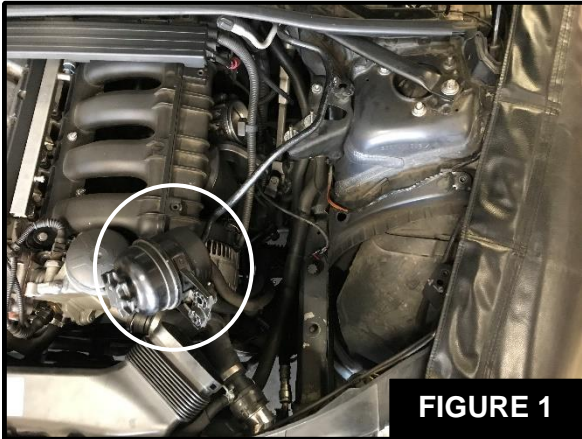

FIGURE 1
Step 6: For vehicles with the steering pump located above the factory intake tube, remove the two (2) factory nuts and keep for later use (5).
Step 7: Detach the factory air line from the reservoir's bracket (6).
Step 8: Carefully move the steering pump reservoir to the front of the engine, to allow for clearance. See Figure 1.
Step 9: Using a 6mm nut driver, loosen the clamp at the throttle body (7).
Step 10: For vehicles with a crankcase breather (CCV) hose, detach the CCV hose from the factory intake tube (8).
Step 12: Transfer the MAF sensor from the factory airbox to the aFe Power intake tube (9) and attach with the supplied screws.
Step 13: For vehicles with a CCV hose, install the supplied NPT fitting into the aFe Power intake tube (10).
Step 14: For vehicles without a CCV hose, install the supplied NPT plug into the aFe Power intake tube (11).